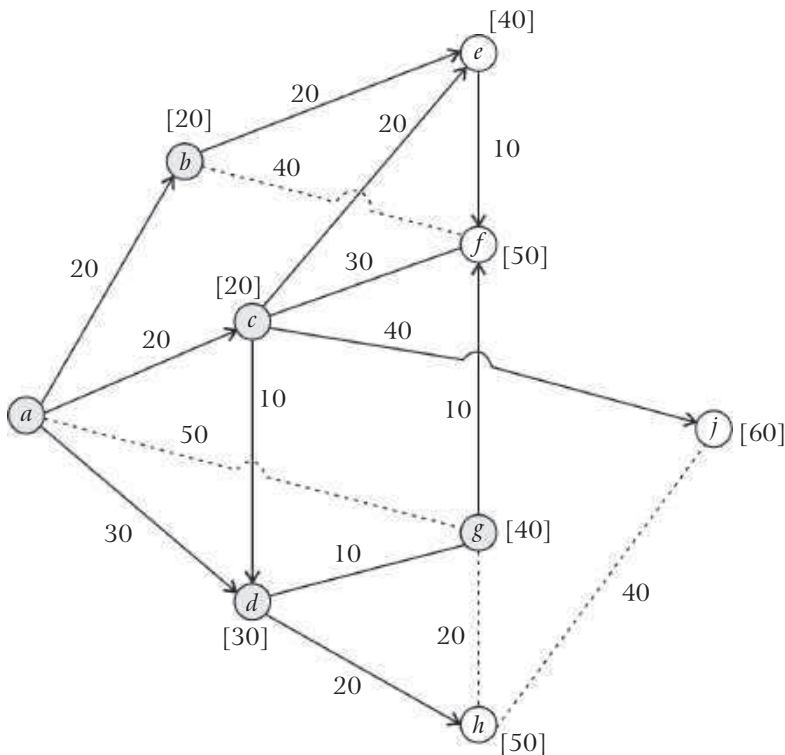

Fig. 8.26
Step 3: Now add stations e, f, j and h to which one can go from the stations b, c, d, g taken in step 2 and draw the links by solid and dotted lines by the method explained in step 2. Also write the least cost from station a to that station on the corresponding station. All these entries are done in fig. 8.26.